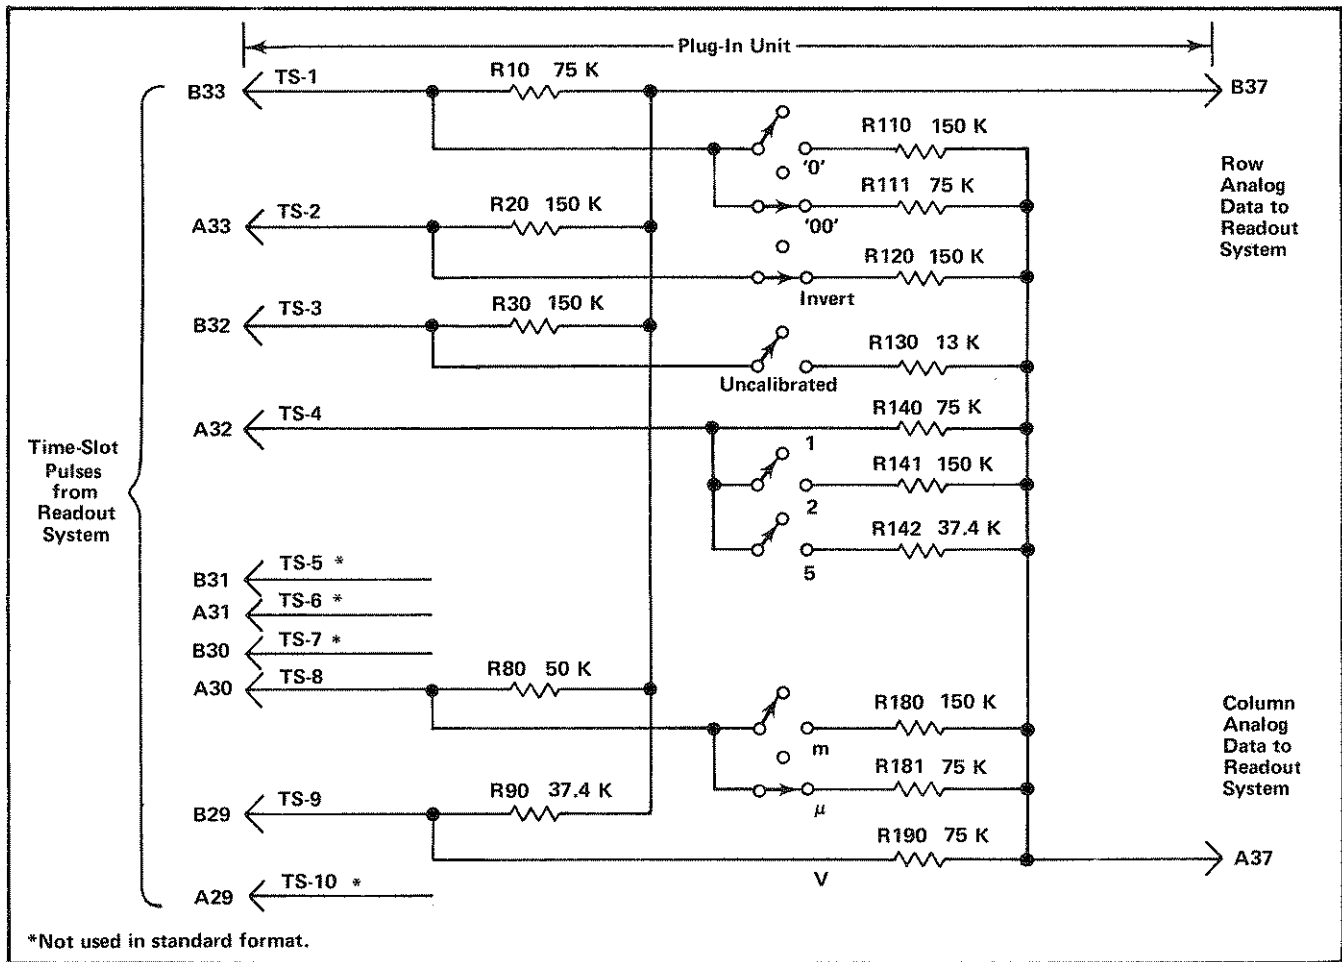

Fig. 3-45. Typical encoding scheme for voltage-sensing plug-in unit. Coding shown for deflection factor of 100 microvolts.
row of the matrix. The column and row data is encoded by resistive programming in the plug-in units. Fig. 3-45 shows a typical encoding scheme for a voltage-sensing amplifier plug-in unit. Notice that the 10 time-slot (TS) pulses produced by the Time-Slot Counter stage are connected to the plug-in unit. However, time-slots 5, 6, 7, and 10 are not used by the plug-in unit to encode data when using the Standard Readout Format (see Table 3-2 for Standard Readout Format). The amplitude of the time-slot pulses is exactly -15 volts as determined by the Timer stage. Therefore, the resultant output current from the plug-in units can be accurately controlled by the programming resistors in the plug-in units.
For example, in Fig. 3-45 resistors R10 through R90 control the row analog data which is connected back to the Readout System. These resistors are of fixed value and define the format in which the information will be presented by the Readout System. Fig. 3-46A shows an idealized output current waveform of row analog data which results from the 10 time-slot pulses. Each of the steps of current shown in these waveforms corresponds to 100 microamperes of current. The row numbers on the left-
The Column analog data is defined by resistors R110 through R190. The program resistors are connected to the time-slot lines by switch closures to encode the desired data. The data as encoded by the circuit shown in Fig. 3-45 indicates a 100 microvolt sensitivity with the CRT display inverted and calibrated vertical deflection factors. This results in the idealized output current waveforms shown in Fig. 3-46B at the column analog data output, terminal A37 of the plug-in interface. Resistor R111, connected between time-slot 1 and the column analog data output encodes two units of current during time-slot 1. Referring to the Character Selection Matrix, two units of column current along with the two units of row current encoded by R10 (row 3) indicates that two zeros should be added to the display. Resistor R120 adds one unit of column current during time-slot 2 and along with the one unit of current from the row output, the Readout System is instructed to
The column analog data encoded by the plug-in unit can be modified by attenuator probes connected to the input connectors of vertical plug-in units. A special coding ring around the input connector of the plug-in unit senses the attenuation ratio of the probe (with readout-coded probes only). The probe contains a resistor which results in additional column current. For example, if a 10X attenuator probe is connected to a plug-in with the coding for 100 microvolts as shown in Fig. 3-45, an additional unit of current is added to the column analog data during time-slot 1. Since two units of current were encoded by R111 (see Fig. 3-45), this additional current results in a total of three units of column analog current during this time-slot. Referring to the Character Selection Matrix, three units of column current along with the two units of row current encoded by R10 indicates that the prefix should be reduced. Since this instruction occurs in the same time-slot which previously indicated that two zeros should be added to the display and only one instruction can be encoded during a time-slot, the
Finally, memory C is interrogated during time-slot 8 to obtain information on whether the prefix should be reduced or left at the value which was encoded. If data has been encoded which calls for a reduction in prefix, a negative-going output level is produced at pin 7. This negative level subtracts one unit of column current from the data at the input to the Column Decoder stage. Notice on the Character Selection Matrix of Fig. 3-38 that a reduction of one column when row 4 is programmed results in a one unit reduction of the prefix. For example, with the 100 μ V program shown in Fig. 3-45, if the data received from the plug-in called for a reduction in prefix the CRT readout would be changed to 1 mV (zeros deleted by program; see Encoding the Data).